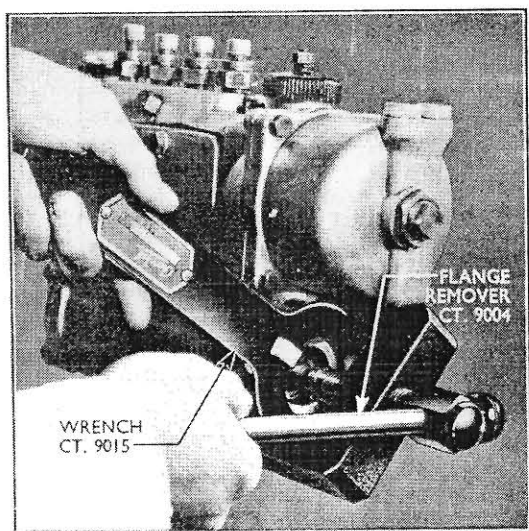

Fig. 16.
14. Remove the camshaft drive coupling using the slotted flange wrench (Tool No. CT.9015) to prevent rotation while the coupling retaining nut is removed, and use the wrench in conjunction with the flange remover (Tool No. CT.9004) to remove the coupling (see Fig. 16).